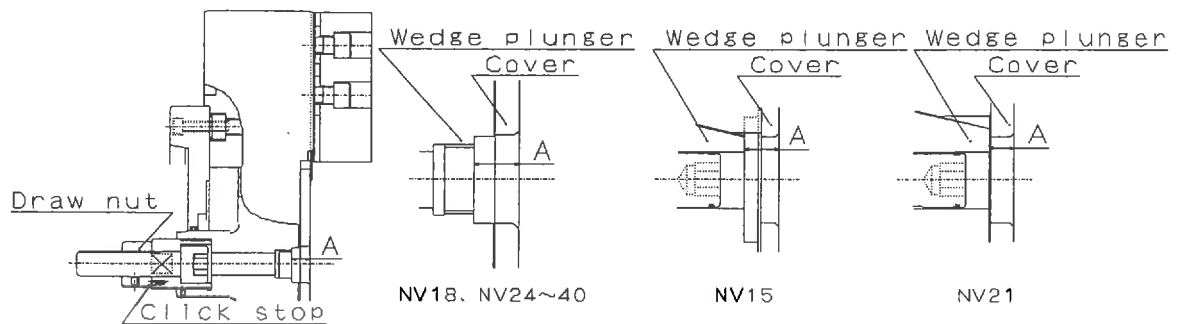

Fig.23
- The appropriate position of the wedge plunger at the cylinder forward end is the position when the dimension A in Fig.23 becomes as shown in the table below. (Distance from surface of cover to the hexagon socket head cap screw plug attaching surface of the wedge plunger in case of NV18 and NV24~40. Distance from surface of cover to surface of the wedge plunger in case of NV15 and NV21.)